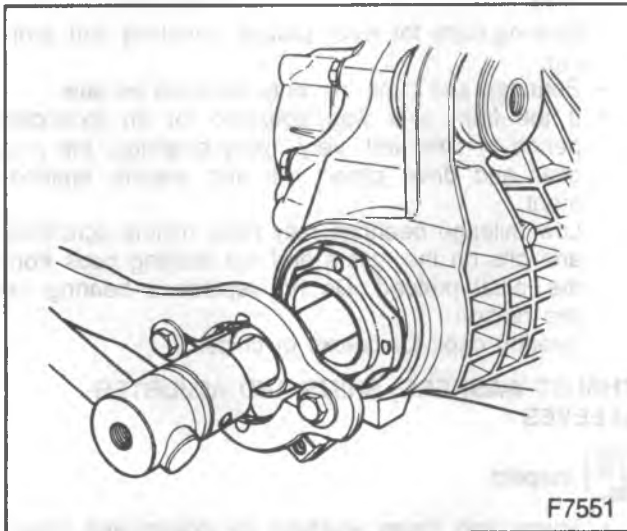

Figure 9—Removing the Pinion Nut
14. Pinion flange nut (46) and washer (45) using J 8614-01 (figure 9).